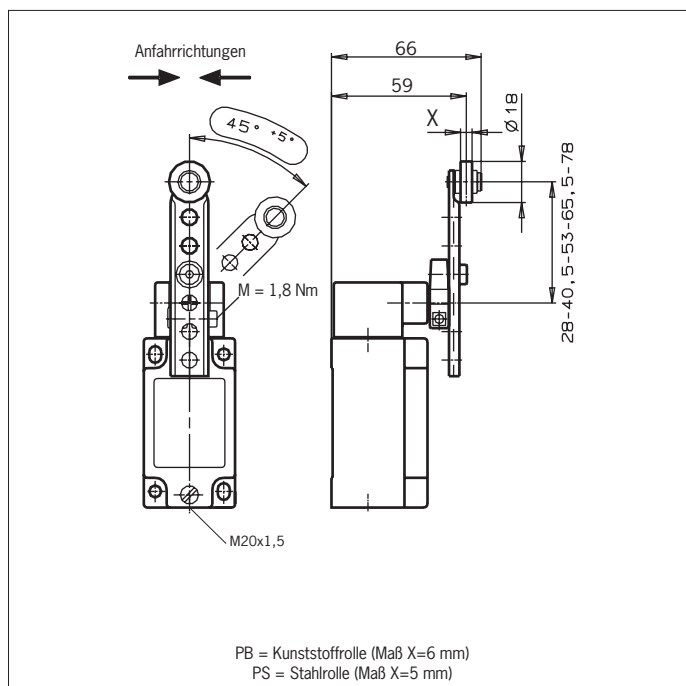

Bild 9: Maßzeichnung NZ1P.. mit Leitungseinführung
- ▶ To ensure correct operation, the trip dogs must be fitted so that the actuator is deflected by at least an angle of $(45^\circ +5^\circ)$ (achievement of the stipulated contact opening, see Fig. 8 and Fig. 9).